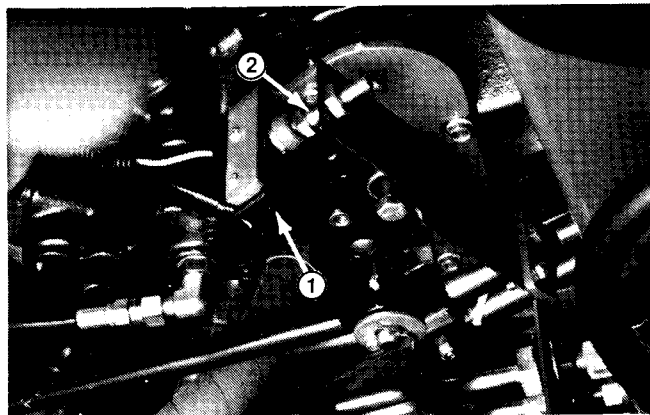

Figure 30
1. Remove the two wires that are connected to the traction switch (bottom of transmission) (Fig. 30).
2. Have a helper push the traction pedal down into either the FORWARD or REVERSE position; this will take the switch adjusting screw tension off of the switch. Loosen two (2) screws and remove the switch.